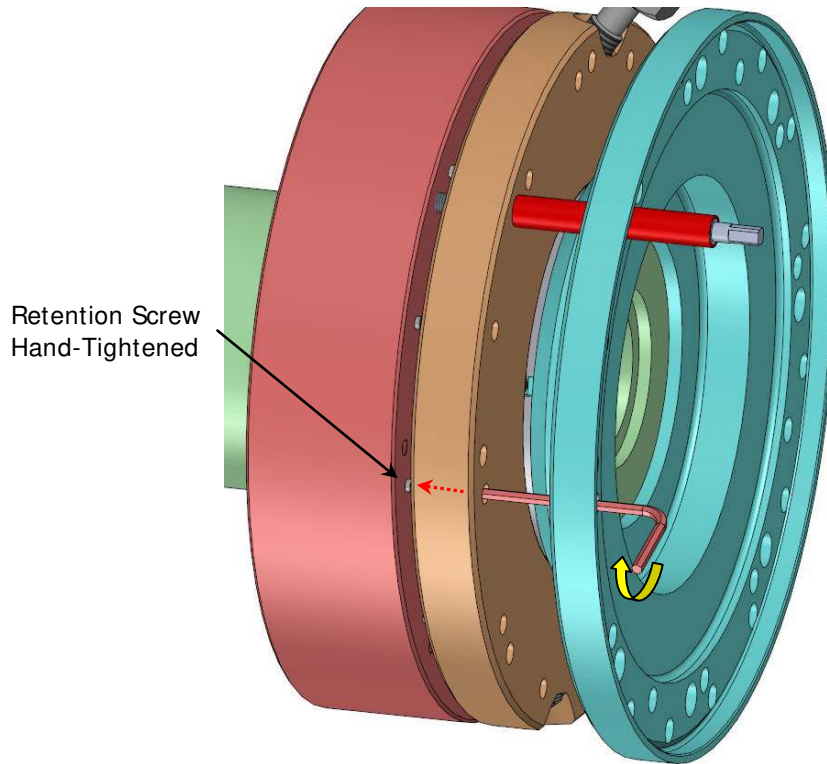

Figure 7 – Tightening Retention Screws
3.4.13 Tighten the twelve retention screws (socket head set screws) hand tight with a hex wrench. The screws are accessed through the flange face as shown in Figure 7.